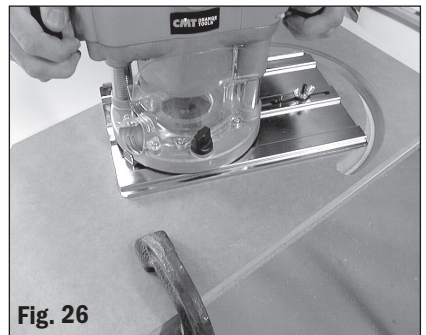

**Fig. 25**
2. Remove the Pivot Mount (s) from the base and fix it to the centre of your work using a small nail or screw through one of the small holes provided. **Fig. 25.** Leave the bolt fitted through the pivot mount.